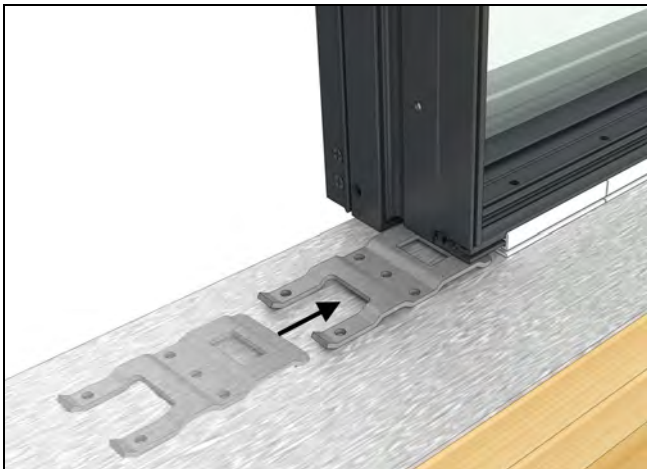

Figure 10
4. Temporarily position the mull bracket on the sill. You will need shim to get the bracket to the correct height if the unit does not sit flat on the sill plate. The bracket should sit flush with the bottom of the frame/shim block. See Figure 10.